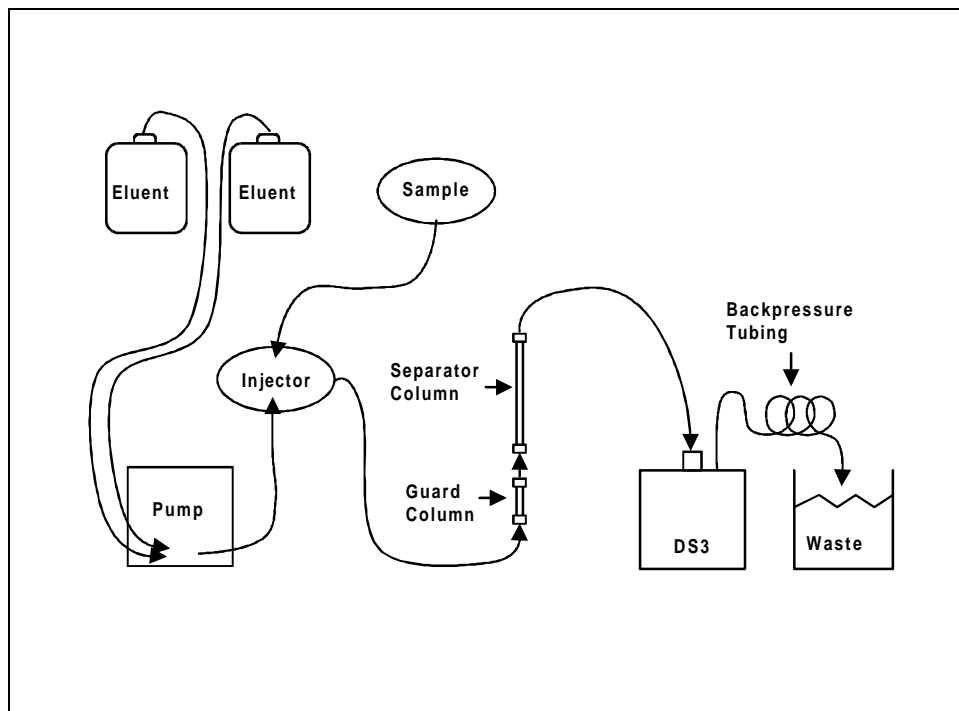

Figure B-5. Nonsuppressed Mode
- Nonsuppressed mode, shown in Figure B-5. Note that conductivity measurements made when no suppressor is in-line may show noticeable baseline drift.